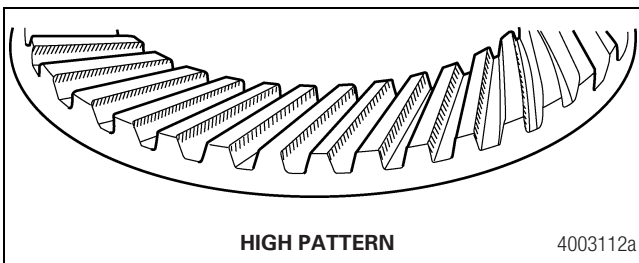

Figure 4.31
- **If the contact is too high on the gear:** The pinion was not installed deep enough into the carrier. Increase the inner pinion shim to move the pinion toward the gear. Figure 4.31.